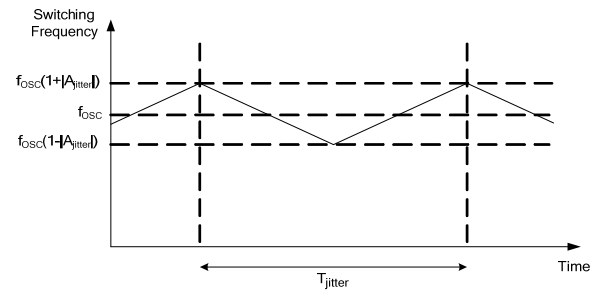

Figure 3: Frequency Jittering
An internal capacitor is charged with a controlled current source, which is fixed when FB is greater than 2V, and its voltage is compared with the TIMER voltage ( $V_{TIMER}$ ).  $V_{TIMER}$  is a triangular wave between 2.8V and 3.2V with a charging/discharging current (see Figure 3). The switching frequency can be calculated using Equation (1):